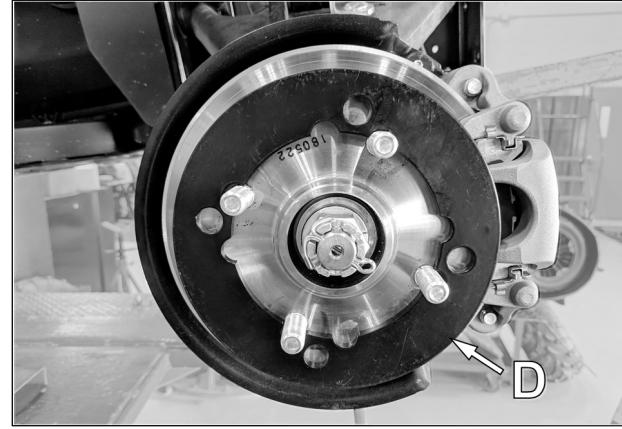

Fig. 10
9. Install spacer (D) on rear wheel hub before installing Track system. See Fig. 10